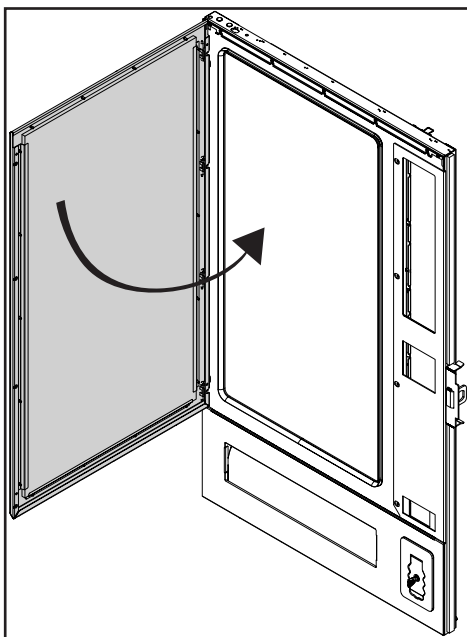

Figure 34
1. Close the impact protection (Fig. 34).